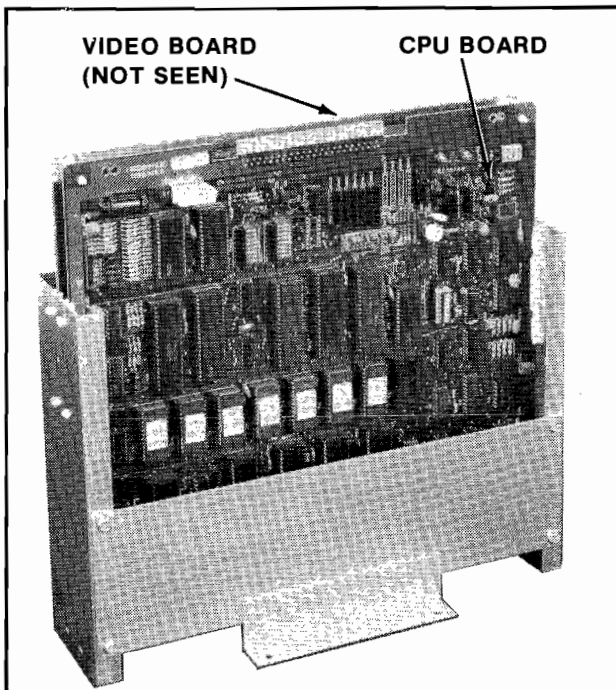

Figure 20 Removing Video & CPU boards from card rack
- To remove the video and CPU boards. See Figure 20. Disconnect the video board from all its cabling. Disconnect the CPU board from all its cabling. Slide the P.C.B. clamps to one side, remove the P.C.B.'s from the card rack and lift them out the top of the cabinet. To reinstall the video and CPU boards, reverse this procedure.